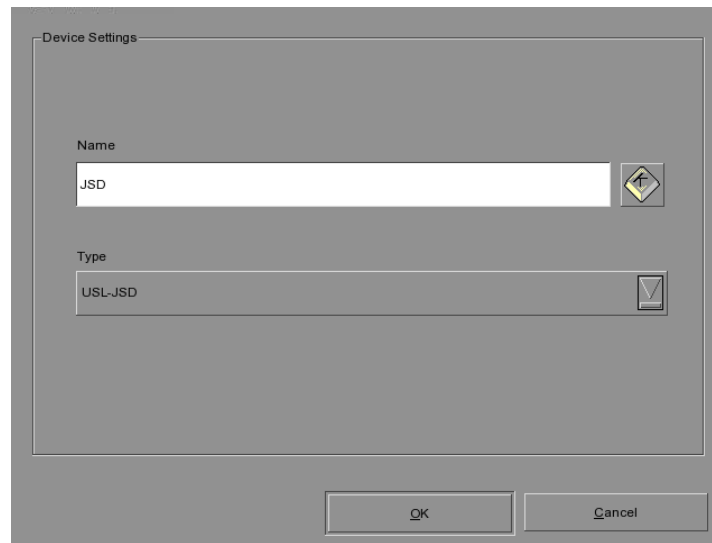

Figure 64 USL JSD automation device setup
1. Click the [Add] button on the [Devices] tab and enter the name of the device. In this case, it is “JSD”. Set the device type to “USL-JSD” (see Figure 64).